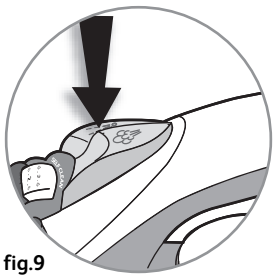

fig.9
- Whether steam or dry ironing, you are able to use the **Spray** button  (**fig.9**) to dampen laundry to remove stubborn creases.